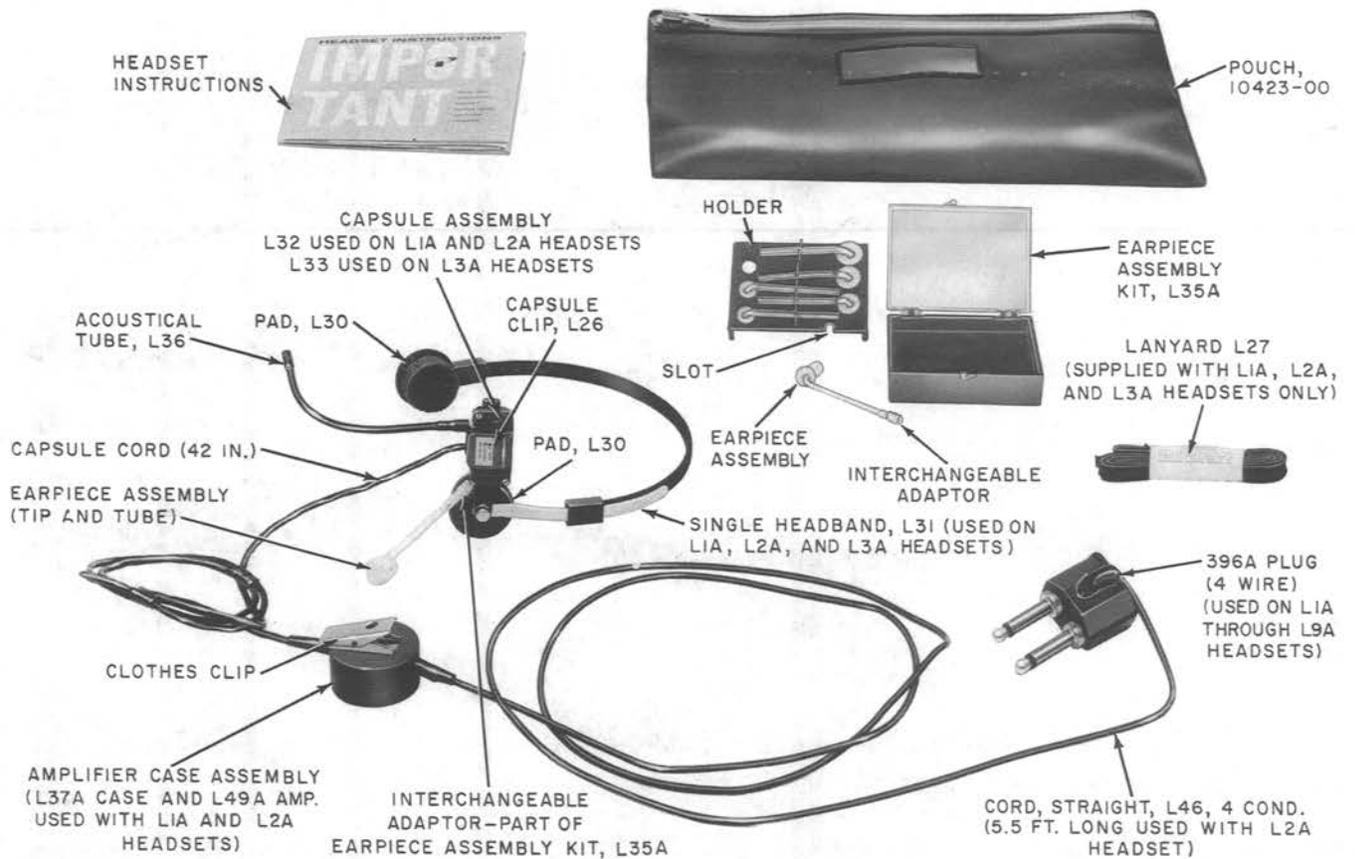

Fig. 2—KS-19796, L2A, Head Telephone Set
(1) To rate the KS-19796 head telephone sets Mfr Disc. and to show in paragraph 1.01 the continuation of coverage of these sets. Since all KS-19796 head telephone sets are Mfr Disc., no further reference of Mfr Disc. will be made to this section
(2) To add KS-19796, L54 through L58, to the piece part data
(3) To warn against parallel operation of KS-19796 and KS-19796 Series A Head Telephone Sets
(4) To include KS-19796, Series A information in Fig. 2 and 3 and Table A.
2.02 Figure 2 and 3 show the relationship of the various parts of the KS-19796, L2A and L13A, head telephone sets. The piece-part numbers of these parts are given together with the names as listed by the Western Electric Company Merchandise Department. Replacement parts will be available until present stocks are depleted.